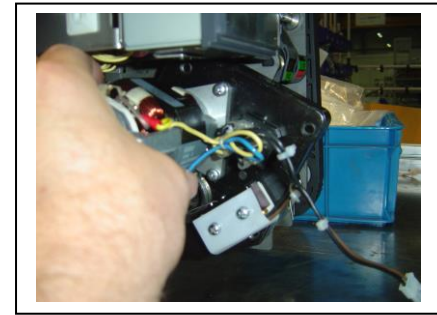

Figure 3. Motor assembly mounting
6. Orient the device as shown in Fig. 3, locating the gearbox bearing on to the cam drive shaft, pushing it until flushes with the mechanism side plate. If it does not move easily to the flush position, pull the charging handle gently down to ease movement.